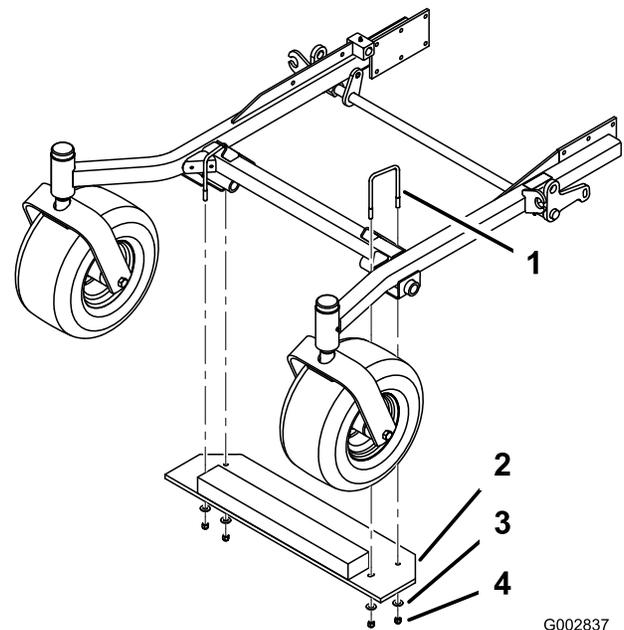

Figure 2
2. Install the weight onto the machine frame with 2 U-bolts (3/8 x 5 inch), 4 washers (3/8 inch), and 4 nuts (3/8 inch) (Figure 2).